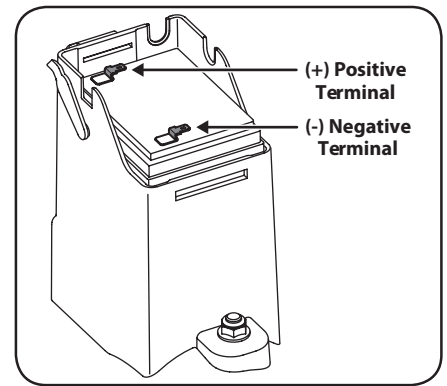

Figure 4-8
- Replace with new battery. Connect the positive lead (red) to the positive side of the battery pack, then connect the negative lead (black) to the negative side. See Figure 4-8.